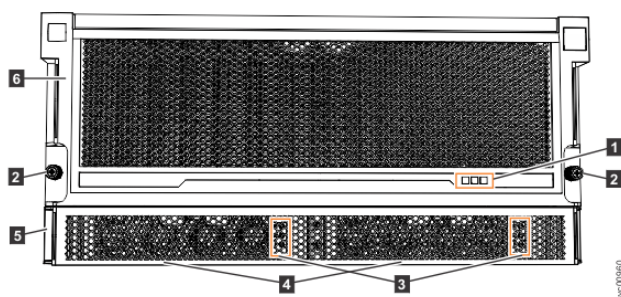
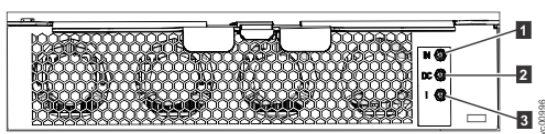

Figure 165. LEDs on the front of the expansion enclosure
Figure 166. LEDs on the front of a power supply unit
As Figure 165 on page 194 shows, the front of the 5U expansion enclosure contains LEDs for the display panel (1) and for each of the power supply units (3).
The 5U expansion enclosure contains two PSUs (4 in Figure 165 on page 194) that are accessible from the front of the enclosure. Each PSU has its own a set of LEDs, as shown in Figure 166 on page 195.